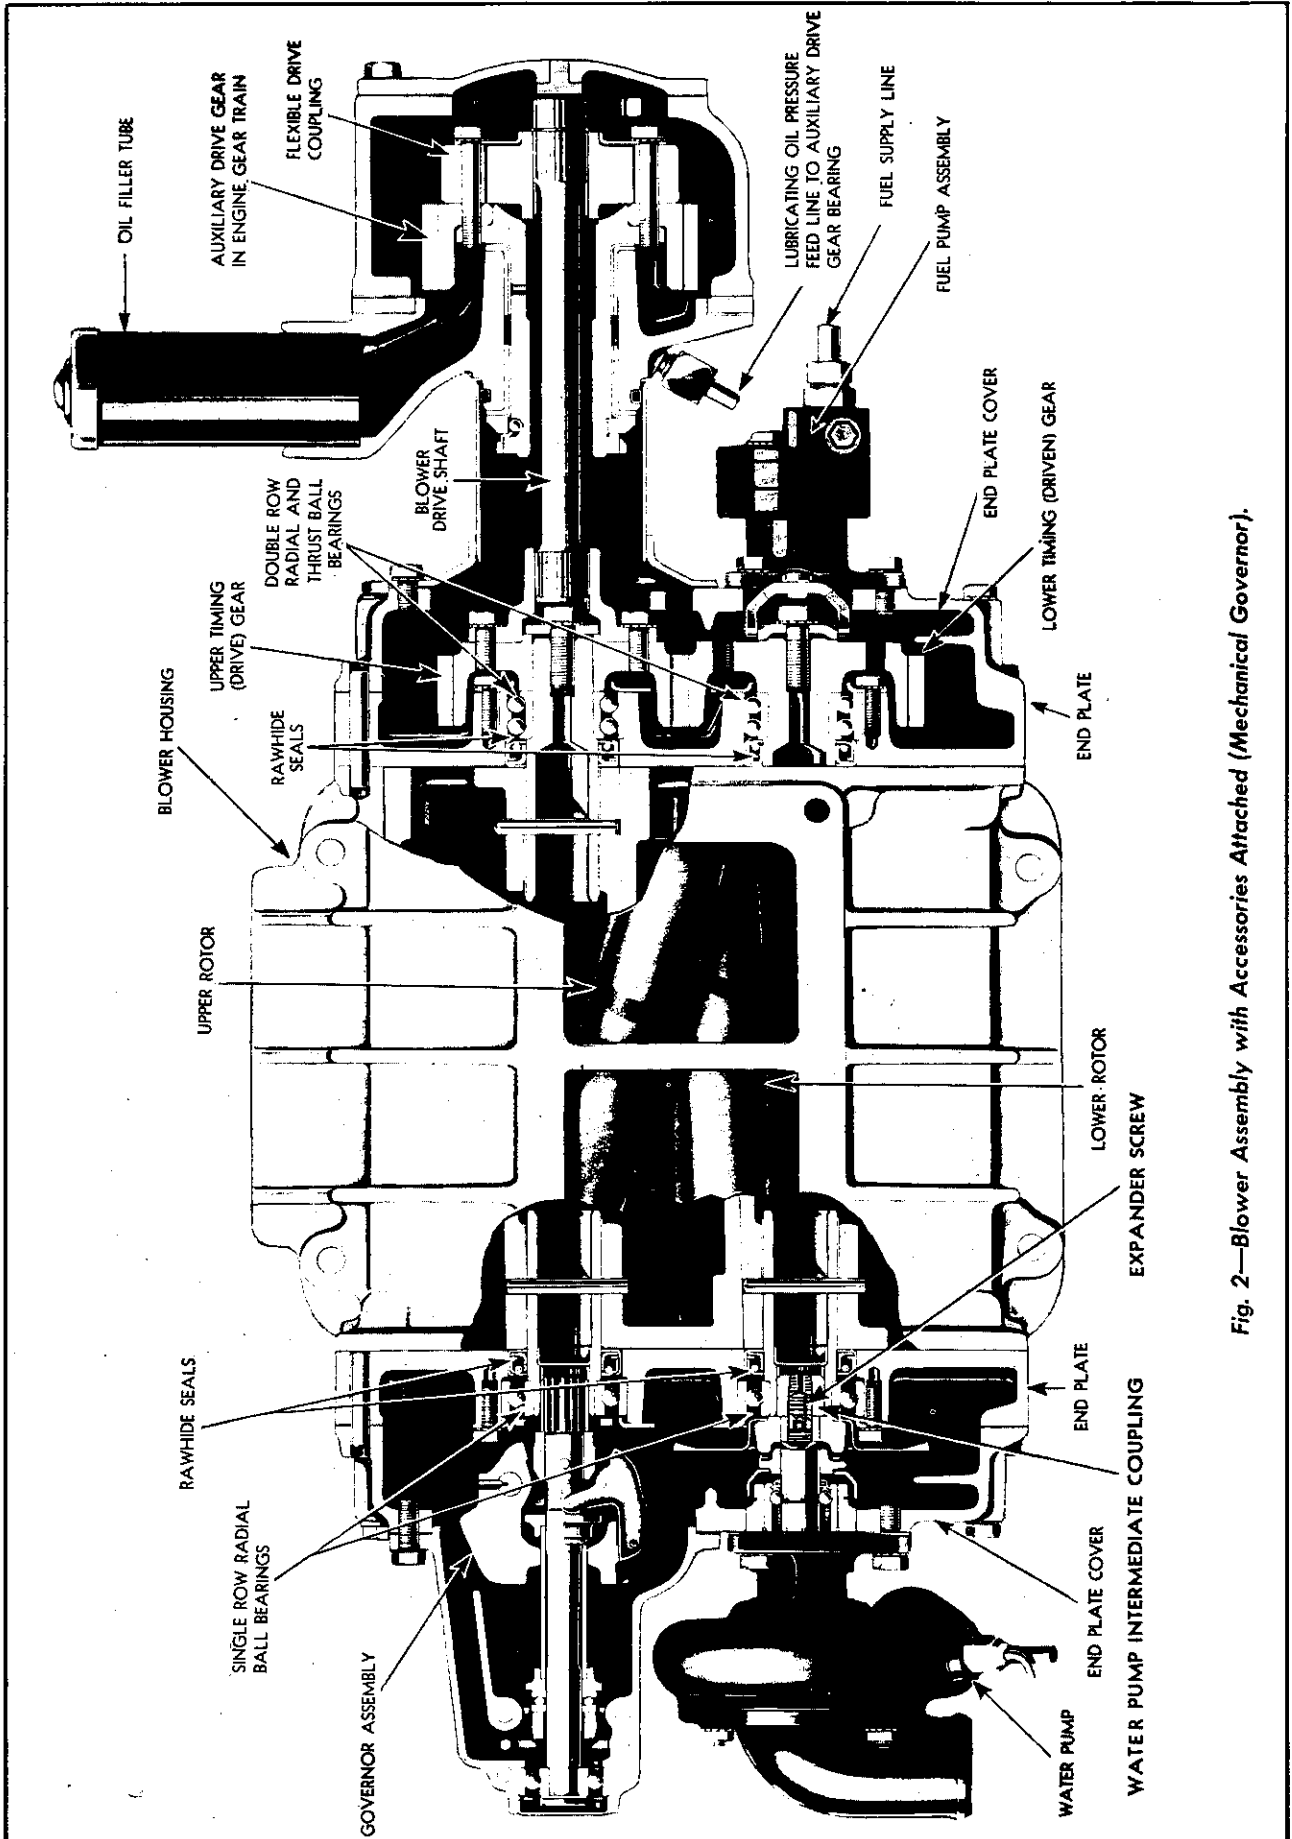

Fig. 2—Blower Assembly with Accessories Attached (Mechanical Governor).
**Description**—The Blower, designed especially for efficient Diesel operation, supplies the fresh air needed for combustion and scavenging. Its operation is similar to that of a gear-type oil pump. Two hollow rotors, each with three lobes, revolve with very close clearances in a housing bolted to the side of the engine. To provide continuous and uniform displacement of air, the rotor lobes are made with a twisted or helical form. (See Fig. 2.)
2. Using a  $\frac{3}{16}$ " Allen wrench, loosen expander screw, if one is provided, at center and front end of blower lower rotor shaft, and withdraw water pump intermediate coupling from shaft. (See Fig. 2.)
- (a) Back out puller studs (A) in puller plates (B) as far as possible.
- (b) Install two anchor bolts (C) in diametrically opposite holes of puller plates and screw anchor bolts into gears as far as possible so faces of plates are parallel with face of blower.
- (c) Turn the two puller studs (A) *uniformly* clockwise and withdraw gears from rotor shafts.